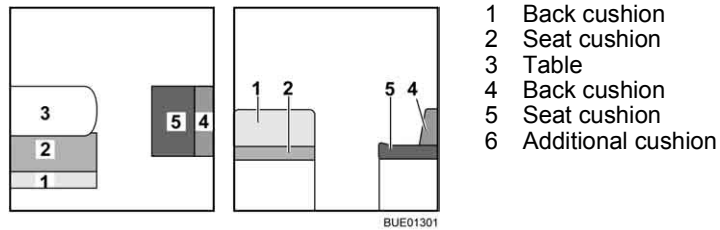

Fig. 124 Prior to conversion
- Convert the table (Fig. 124,3) to a bed foundation (see section 6.10).
- Remove the back cushion (Fig. 124,1) and lay it aside.